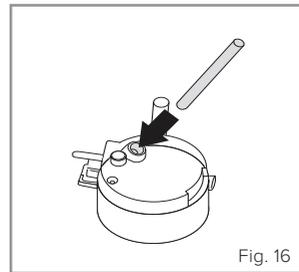

Fig. 16
3. Make sure the intake tube is correctly inserted in the rubber washer, then replace the milk container lid (Fig. 16)